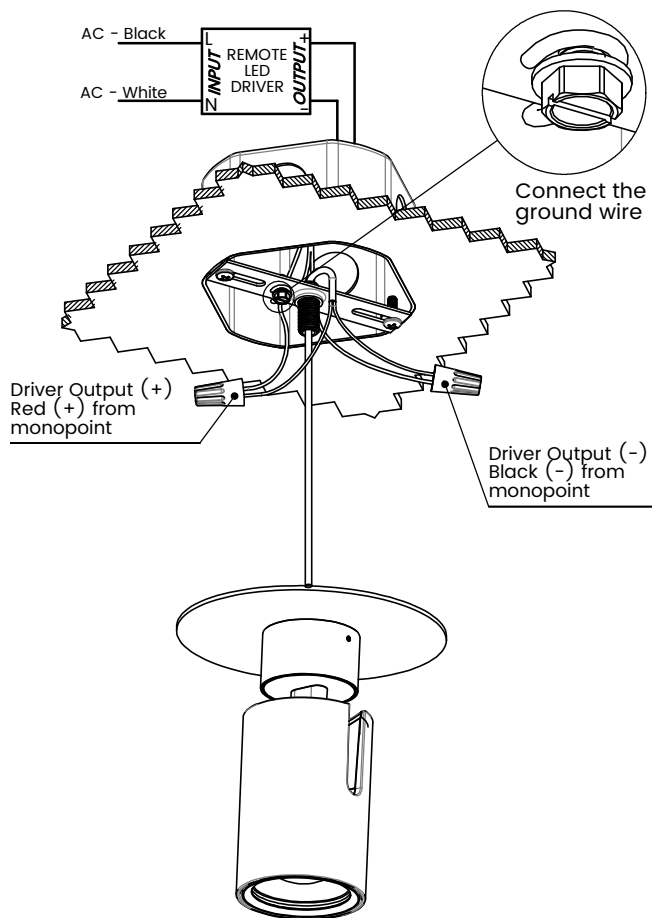

FIGURE 9
- B. Make wiring connections (SEE FIGURE 9 BELOW).